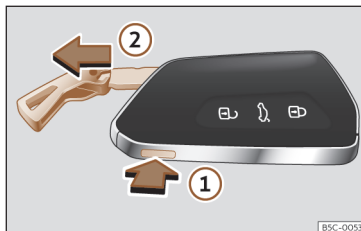

Fig. 57 Vehicle key: remove the key blade.
- If you press button >>> **Fig. 57** ① once the key blade is unlocked and a ring appears as a key ring.
- Press and hold the button ① and at the same time pull on the ring in the direction of arrow >>> **Fig. 57** ② to completely remove the key blade.